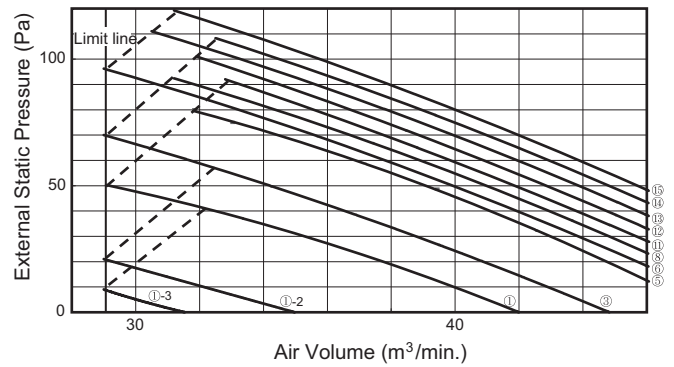

Fig. 1-123
- (2) The operation check will be completed in approximately three minutes if the settings have been made correctly. The settings will be modified if they are out of the range of use (maximum 30 minutes). If this is not completed within 31 minutes, check whether the air speed is set to “H” or not.
- (3) Refer to Table 1-13 and Fig. 1-123 for details on the relationship between the value of item code “b0” and the external static pressure.
- (4) When set in group control (connecting multiple indoor units with one wired remote controller), set each indoor unit to item code “b0”. When amending the setting after selecting [ b. Manual setting] (due to airflow path changes, etc.), it is necessary to cancel [b. Manual setting] (disconnect short-circuit connector). When [b. Manual setting] has not been cancelled, [c. Manual setting] and [d. Auto airflow volume setting] will be activated if selected, but [b Manual setting] takes precedence when the power is switched back on after power outages, etc.
- (5) If this is not completed within 8 minutes, check the drive mode, air speed and air inlet temperature.
- (6) When set in group control (connecting multiple indoor units with one wired remote controller), the test run operations display will disappear once the external static pressure setting check or auto airflow volume control operation check have been completed for the main unit.
Refer to Fig. 1-123 for the external static pressure setting range.
Refer to table 1-13 and Fig. 1-123 and select a value between "0001" and "0015".